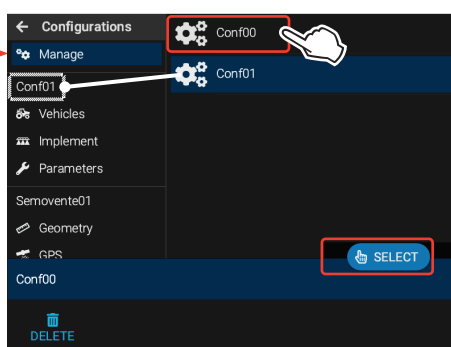

Fig. 24
The configuration in use is highlighted, example **Conf01** in Fig. 24.
- Press the configuration to be selected (Fig. 24).